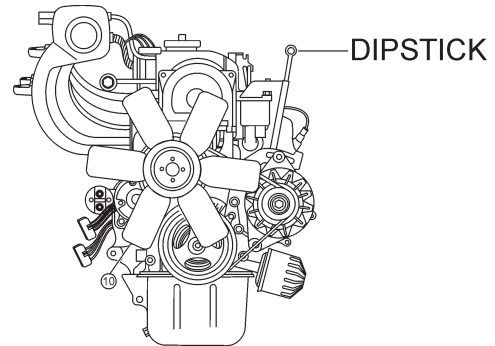

Figure 13. Engine Oil Dipstick (Removal)
2. Remove the dipstick from its holder (Figure 13) and wipe it clean.